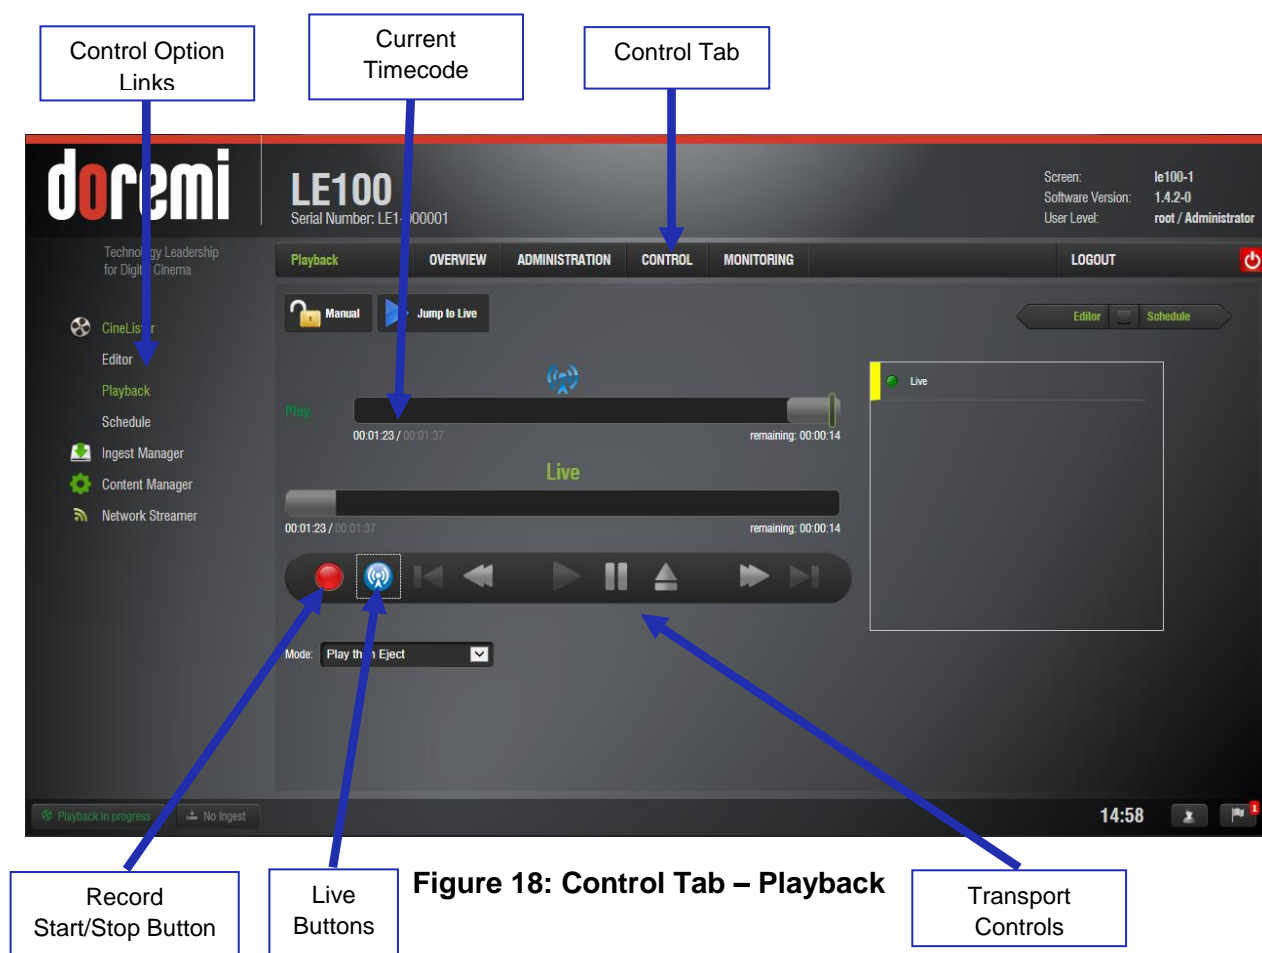

Figure 18: Control Tab – Playback
- Click on the CineLister link on the left side of the GUI (see Figure 18).
- Single clicking on a clip in the “All Available Elements” column will add that clip to the “Show Playlist” column. Once the desired clip is listed in the “Show Playlist”, switch back to the CineLister Playback control and press play (see Figure 18). The clip will be cued and played.